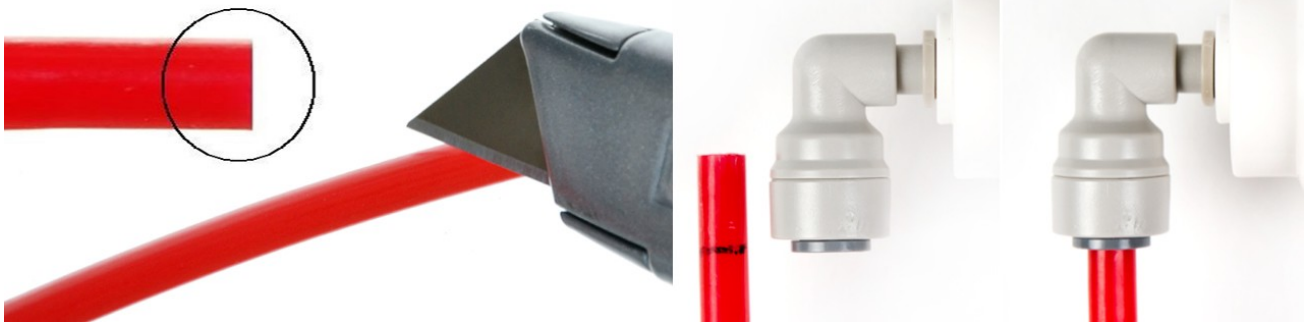

Figure 1
1. See Figure 1. Check and cut the tubing end squarely and cleanly with utility knife or scissors.